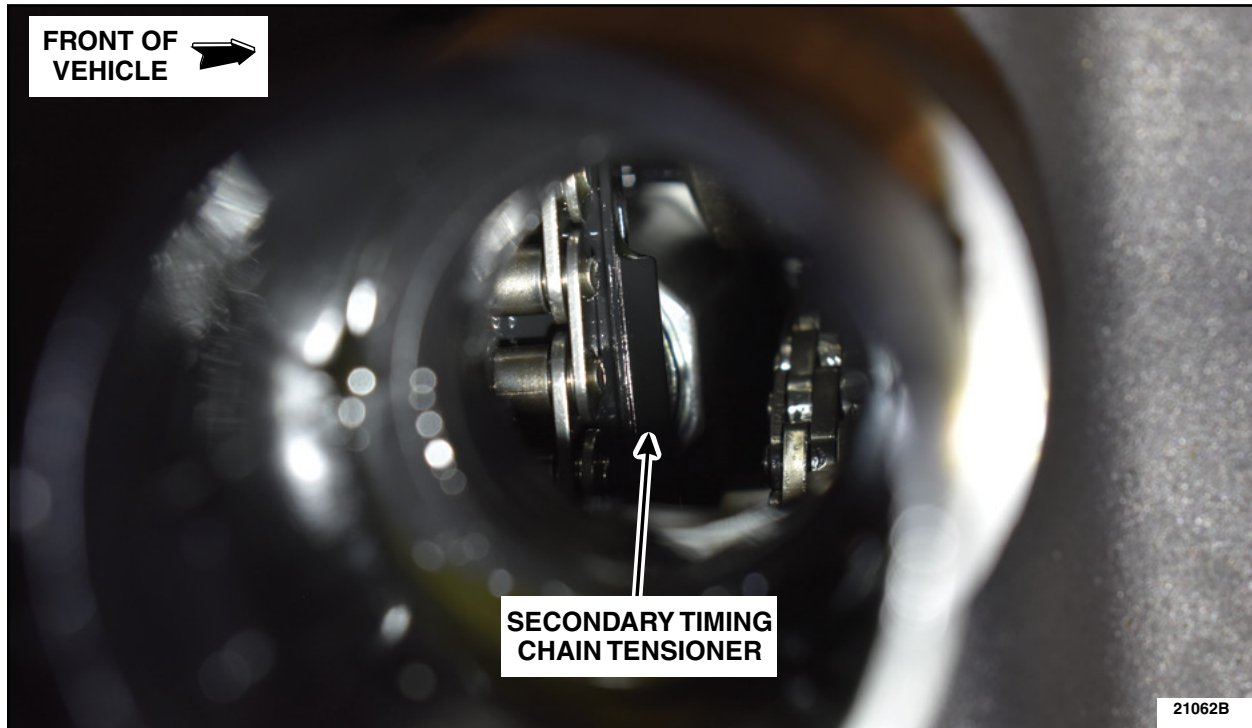

FIGURE 2
2. Inspect the Right Hand (RH) secondary timing chain tensioner for activation. The RH secondary timing chain tensioner is inspected through the oil fill opening using a mirror and when activated will show the groove in the shaft of the tensioner. See Figures 2 and 3. Is the groove on the RH secondary timing chain tensioner visible?
4. Rotate the engine from the 12 o'clock position to the 8:30 position and reinspect the secondary timing chain tensioner. See Figures 2 and 3. Is the groove on the secondary timing chain tensioner visible after rotating the engine?